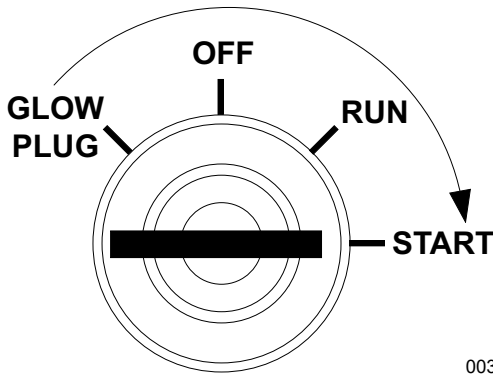

Figure 3-5. Crank Engine
- See Figure 3-5. As soon as it is glowing, turn the key to the right START position until the engine cranks and starts running.